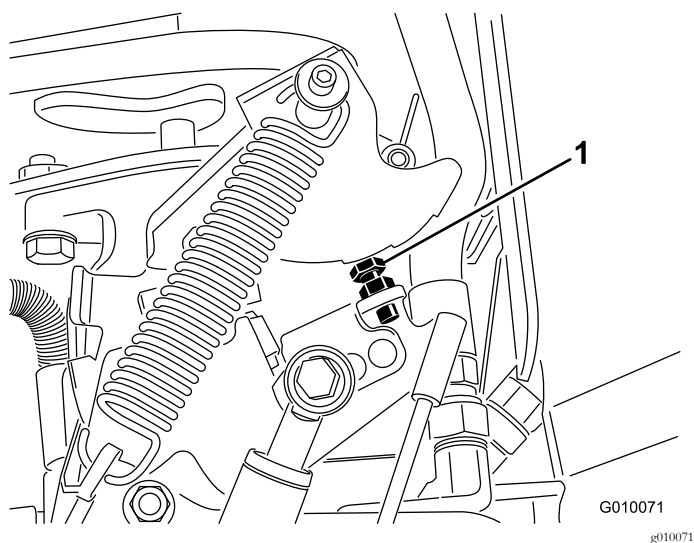

Figure 66
6. If an adjustment is needed, turn the pump stop bolt (Figure 66) closer to the stop plate to decrease hole spacing or turn the stop bolt away from the stop plate to increase hole spacing.